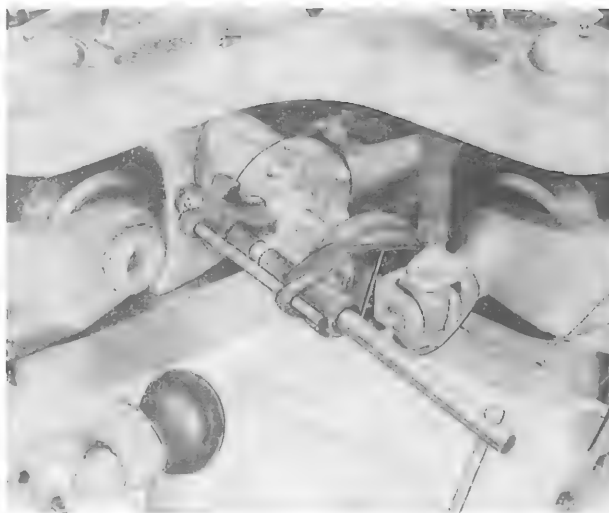

Figure 7-29. Positioning Damper Against its Inboard Stop Using Shackle Jack
b. Pull all blades in a counterclockwise direction so that they are in their full autorotative position and, using shackle jack, Rinck McIlwaine Inc. part No. 955 or equivalent, position dampers against their inboard stops. (See figure 7-29.) Shackle jack is mounted on damper assembly in such a way that one phenolic face of shackle jack is against fork on damper assembly and other phenolic face of shackle jack is against head of cylinder on damper assembly. Screw on the shackle jack is turned until each damper is positioned at its inboard stop. This is evidenced by no further movement of damper assembly piston rod.